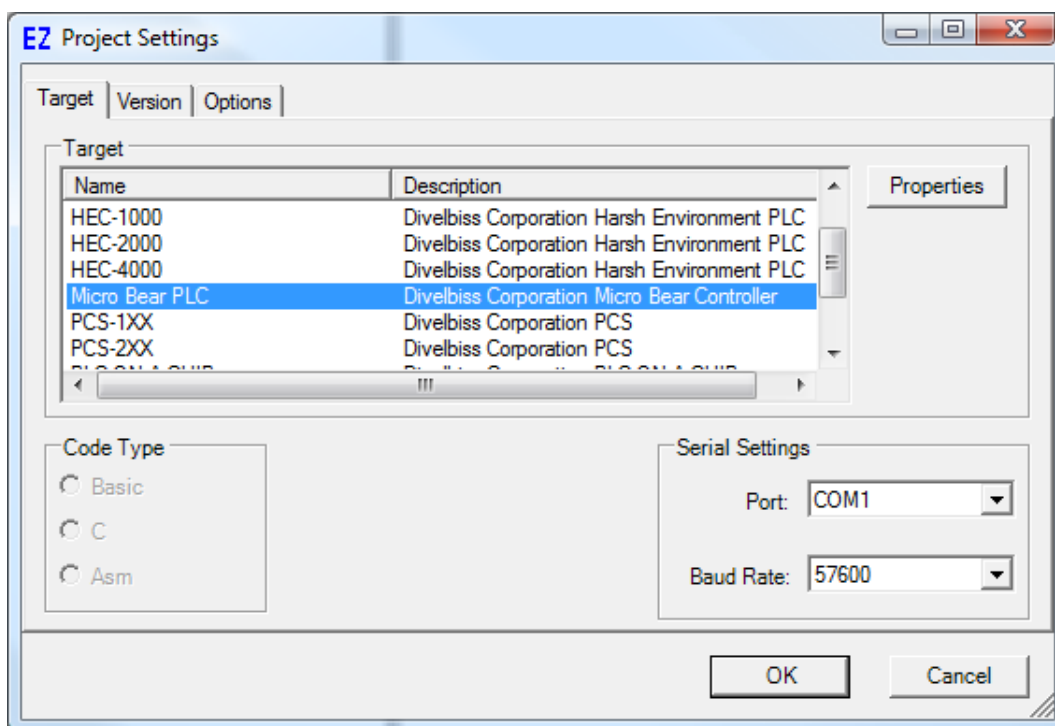

Figure 1.1 - Project Settings Window
1. In EZ LADDER, from the File Menu at the top, click **PROJECT** then **SETTINGS**. This will open the Project Settings Window. Select **Micro Bear PLC** as the target from the choices. Refer to Figure 1.1.